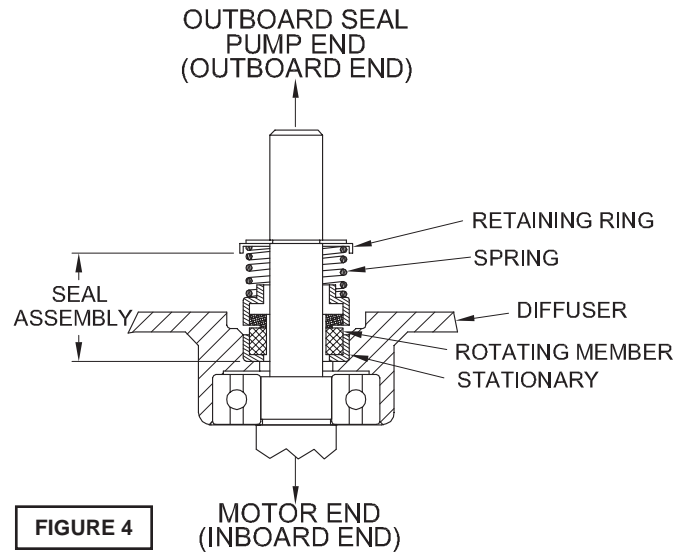

FIGURE 4
To replace shaft seal, drain oil per Section F-1.1 and remove impeller per Section F-2. Remove the lower end assembly from the frame and motor assembly by lightly tapping the diffuser (9) with a plastic hammer, until free. Now remove o-rings (19) and (20), replace o-rings showing any nicks, cuts cracks, or deformation. Slip the lower end out of the frame assembly being careful not to lose the motor shaft key (14). Remove the seal retaining ring (10a) seal spring (10b), and seal rotating member (10c) from shaft (39), See Figure 4.